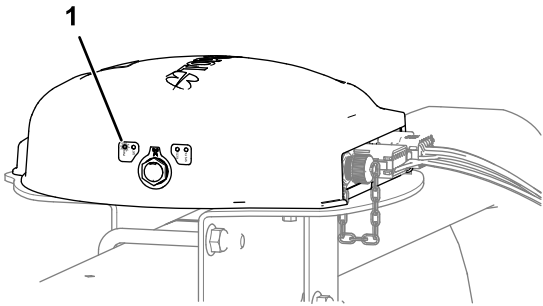

Figure 191
- Satellite receiver—the PWR indicator illuminates (Figure 191)